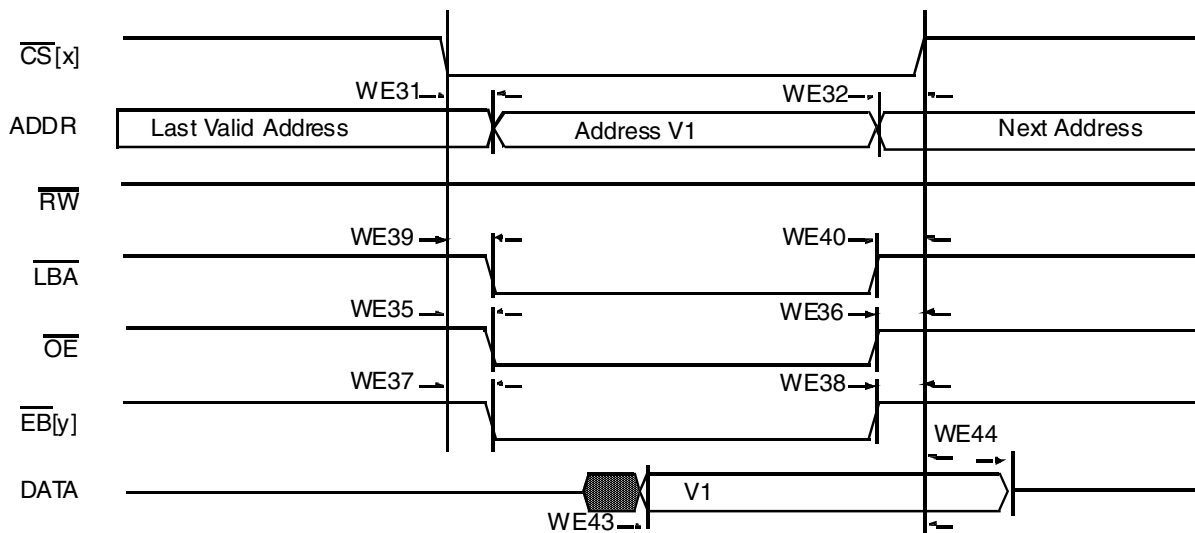

Figure 45. Asynchronous Memory Read Access
Figure 45 through Figure 49, and Table 57 help to determine timing parameters relative to chip select (CS) state for asynchronous and DTACK WEIM accesses with corresponding WEIM bit fields and the timing parameters mentioned above.